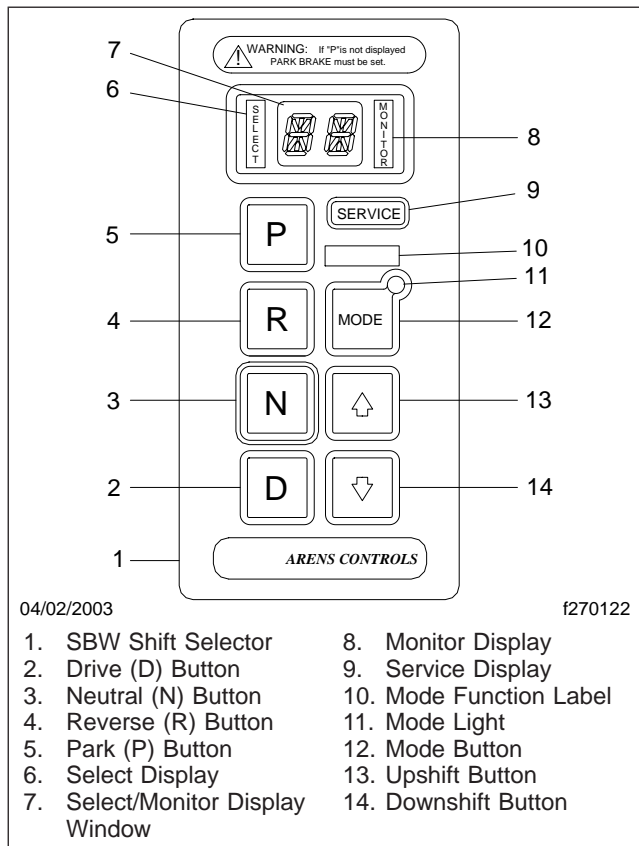
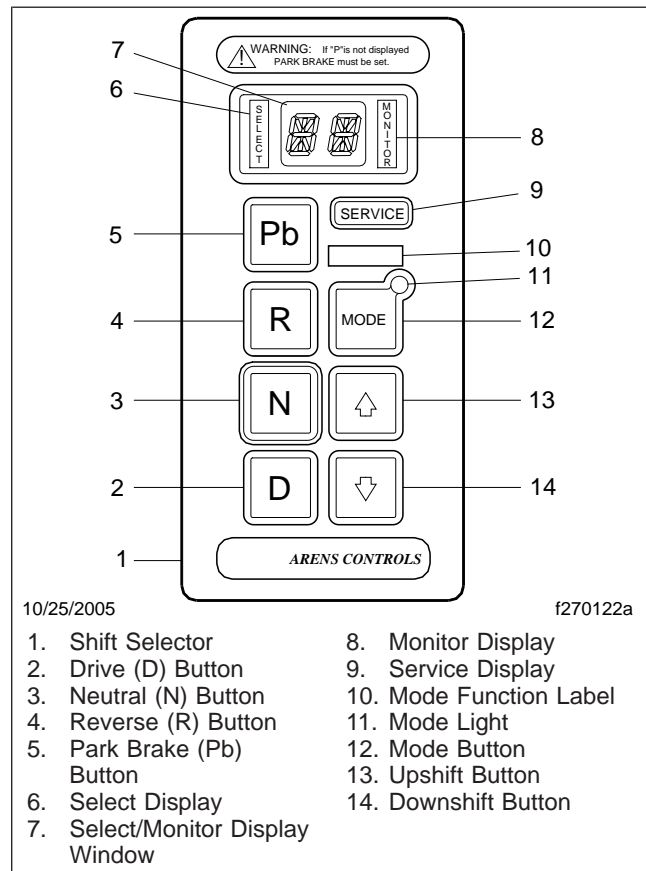

Fig. 9.5, SBW Shift Selector (1000/2200/2350 series)
Fig. 9.6, SBW Pushbutton Shift Selector with Park Brake (Pb) Button (2100 series)
The 1000/2200/2350 series transmission has a park pawl and the SBW selector has a Park (P) position. The 2100 series transmission has a park brake (Pb) button. See Fig. 9.5 and Fig. 9.6.